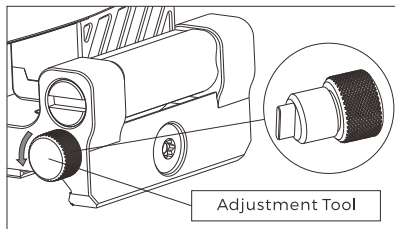

Figure 7
1) Unscrew to remove the adjustment tool (as shown in Figure 7)